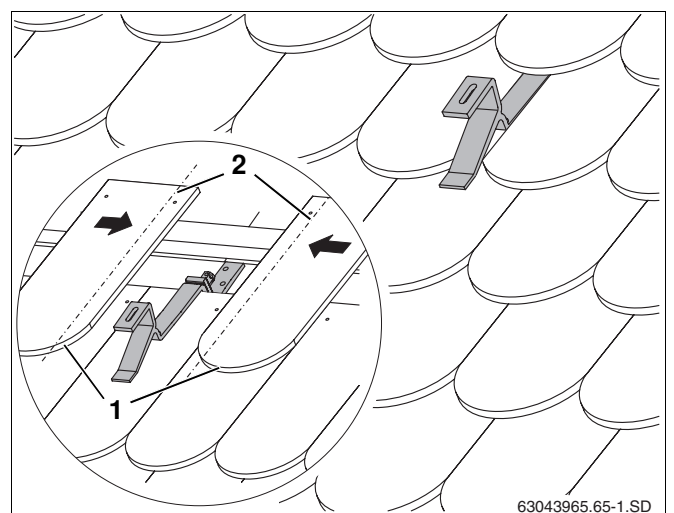

Fig. 20 Roof hook with covered roof
- Cut the adjacent crown tiles (Fig. 20, **Item 1**) to size (dashed line, Fig. 20, **Item 2**).